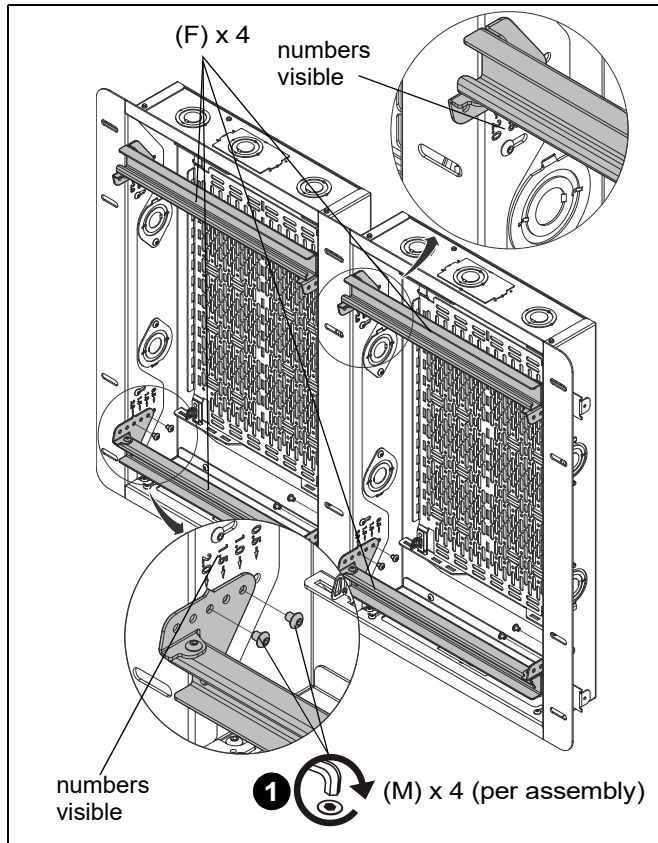

Figure 19
1. Use four #10-24 x 1/4" button head cap screws (M) to secure each in-wall rail assembly (F) to boxes. Install into appropriate holes based on desired display installation depth. (See Figure 19)